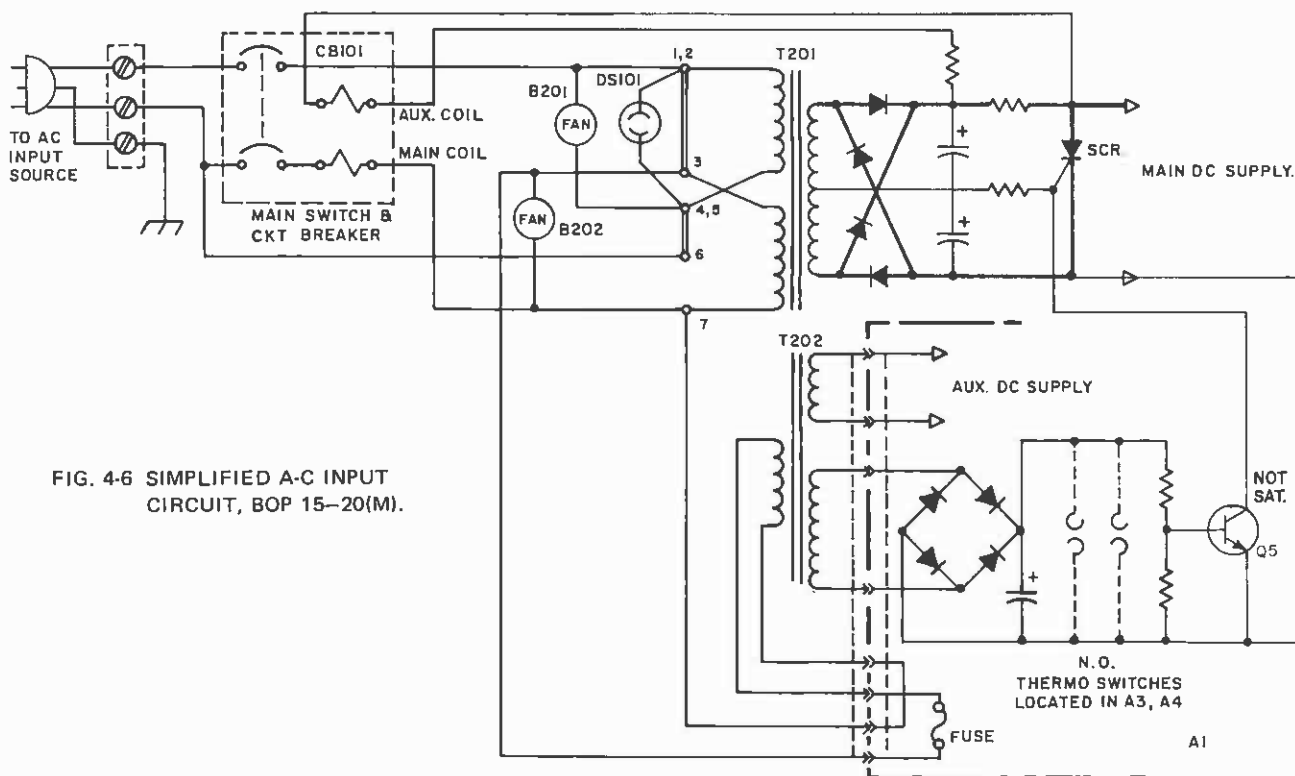

FIG. 4-6 SIMPLIFIED A-C INPUT CIRCUIT, BOP 15-20(M).
4-22 A-C INPUT CIRCUIT (Refer to Main Schematic and FIG. 4-6.)
4-25 (Refer to FIG. 4-6.) The a-c circuit breaker/a-c power switch (CB101) is a dual coil device which not only serves as a manually operated a-c power switch but also automatically disconnects both a-c line wires to and from the a-c input circuit in case of an overload. While one coil of CB101 is connected in series with a primary winding on T201, the other is connected to the overshoot prevention and thermal protection circuit. Since the primary current of the main transformer (T201) is monitored by the main sensing coil of the circuit breaker (CB101), any overload reflecting into the primary of T201 will energize the "main" coil, trip the breaker mechanism, and disconnect the a-c input source from the BOP.
- 4-40 PROTECTIVE CIRCUITRY. (Refer also to FIG. 4-6.) Aside from the current limiting circuits (see par. 4-32), additional circuitry has been provided in the BOP to protect the instrument from thermal overload and the external load from the output voltage overshoot at a-c input source shutdown or power failure. A silicon controlled rectifier SCR – CR205) is connected across the unregulated main d-c source and controlled by a sensing circuit consisting of the sensing transistor (Q1) and a bias supply derived from the auxiliary transformer (T202). Q1 is an NPN transistor which is biased for saturation via the bias supply consisting of the bridge rectifier (CR1), filter capacitor (C1), and the voltage divider (R1, 2). Since the collector and emitter of Q1 are connected between gate and cathode of the SCR crowbar (CR205), the latter has very little forward bias and is normally "off." As soon as a sufficient voltage drop is sensed in the voltage divider (originating from power turnoff or failure), or as soon as one or both of the thermal sensing switches close (as a result of excessive temperature), Q1 goes out of the saturated condition, thus producing a positive turnon signal for the SCR crowbar (CR205). As the SCR conducts, the auxiliary coil of the circuit breaker/mainswitch is energized due to the heavy current flow, and the breaker mechanism trips, removing a-c power from the BOP. IMMEDIATE TURNON OF THE BOP IS PREVENTED BY A TIME DELAY (approximately 2 seconds) until the main filter capacitors are discharged. The delay is due to the continuing current flow through the SCR, keeping the auxiliary circuit breaker coil energized until most of the capacitor energy has been discharged.